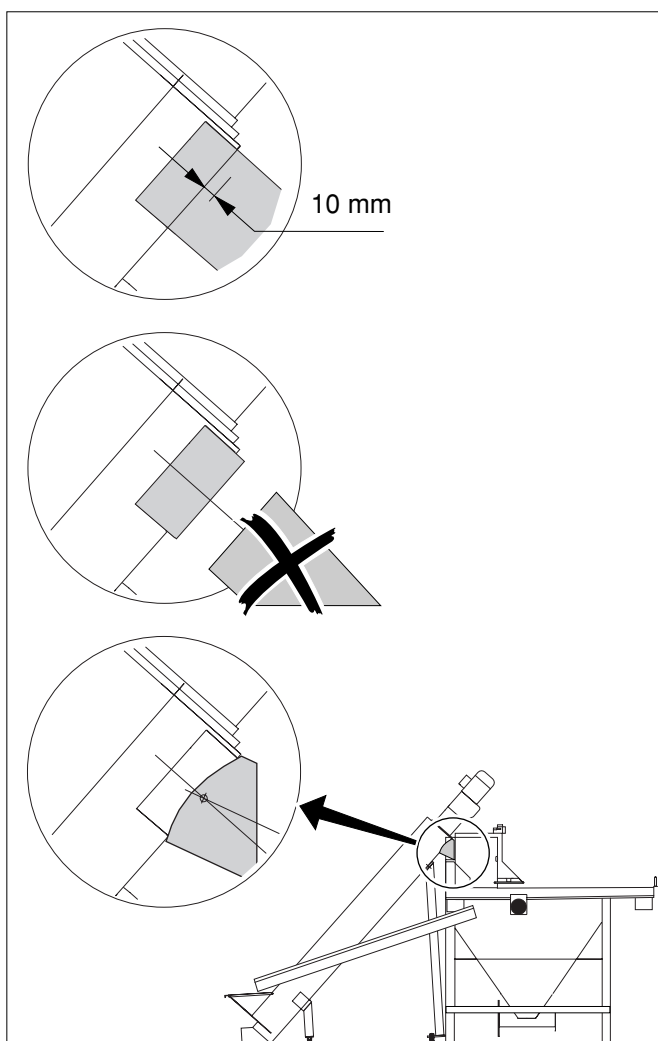

fig.10.2 Set-up with detail outfeed washer/conveyor screw
1. Grind the outfeed of the washer/conveyor screw in such a way that the length is 10 mm. See figure 10.2.
See figure 10.2.